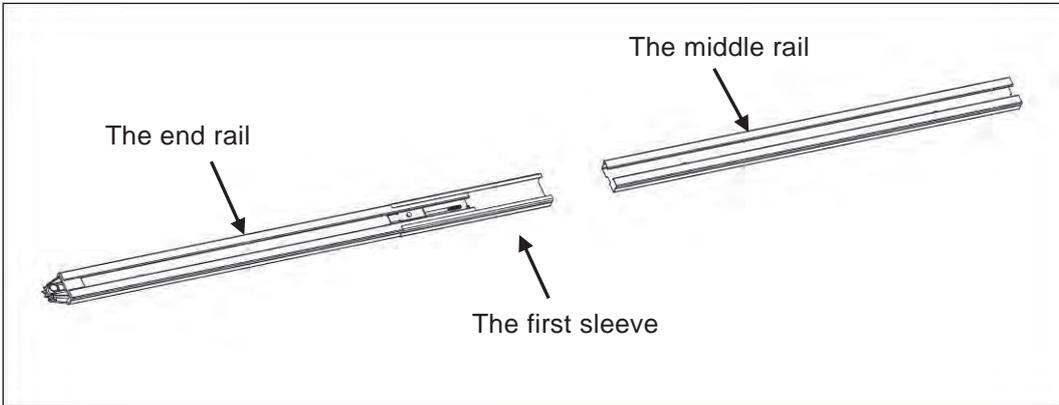

Fig. 7
1. As Fig.7, slide the end rail into the 1st sleeve, slide the middle rail into the 1st sleeve;